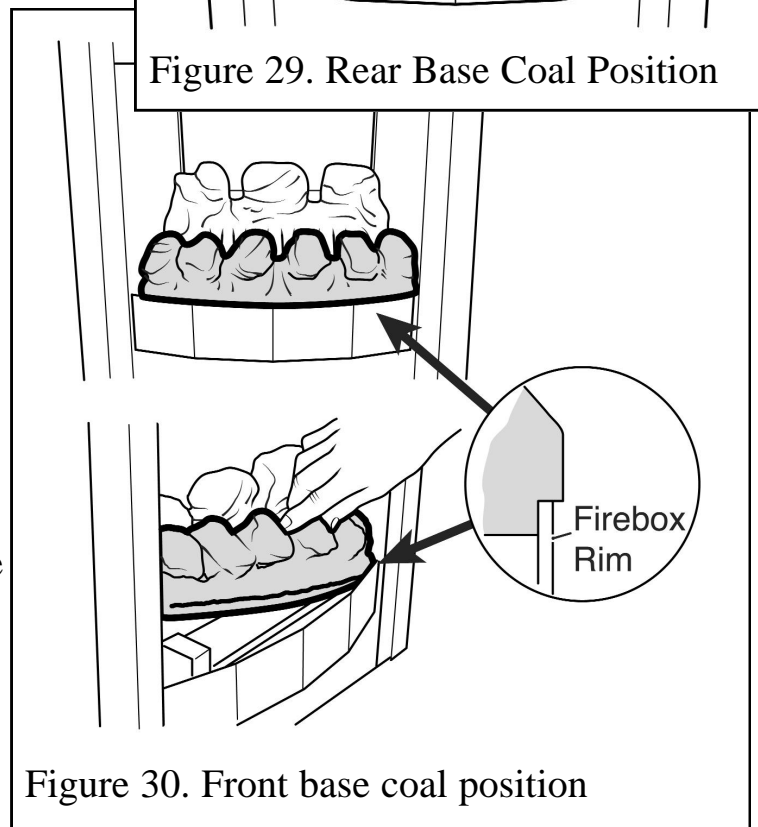

Figure 30. Front base coal position
2. Place the front base coal in the firebox with its bottom front locating over the front rim of the firebox. Pull the coal forward so that it locates immediately behind the front rim of the firebox (See figure 30). The front base coal will touch the rear base coal as it is located.